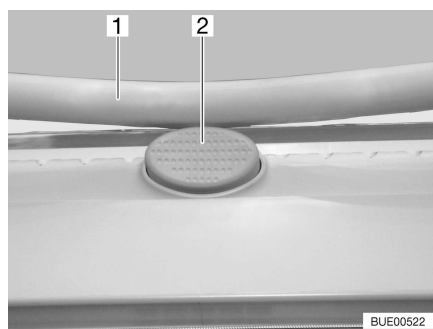

Fig. 34 Safety knob on the Heki skylight
- Press the safety knob (Fig. 34,2) and pull the bar (Fig. 34,1) down with both hands.
- Push the bar upwards with both hands until it is above the safety knob (Fig. 34,2).